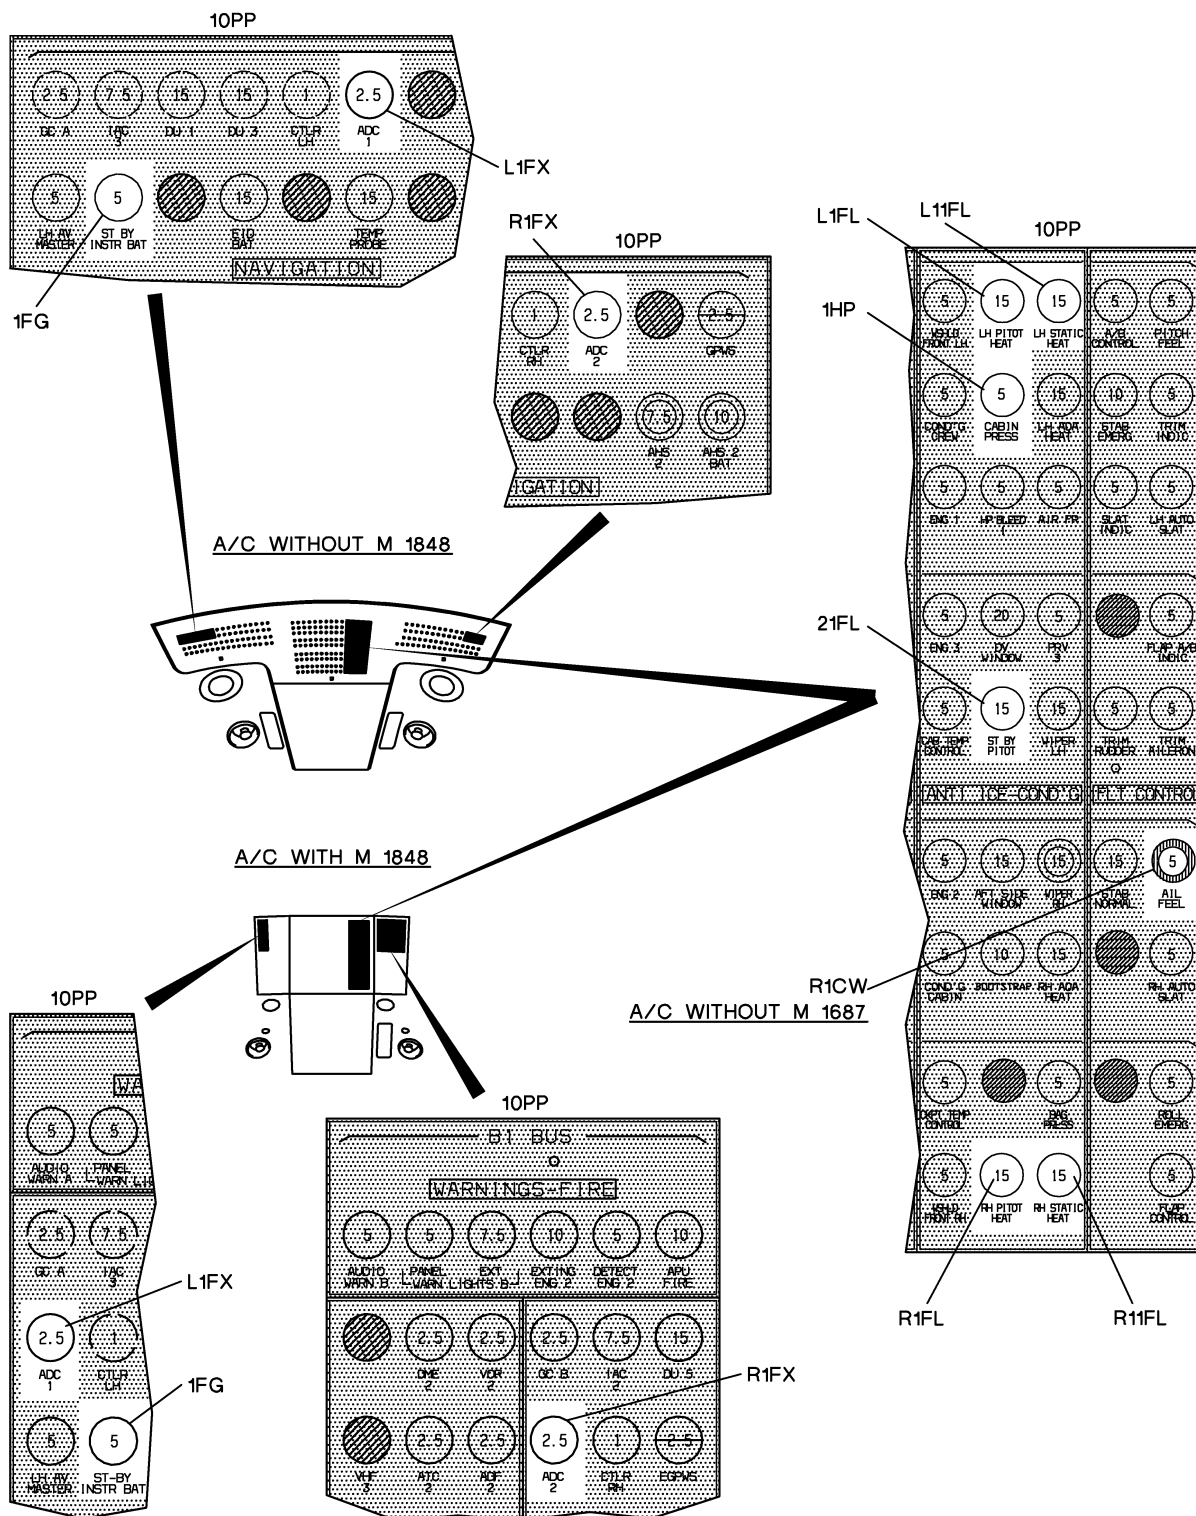

Figure 1: LOCATION OF CIRCUIT BREAKERS
- (4) Slowly return the digital air data bench to ambient atmospheric pressure.
- (5) On the circuit breaker panel (10PP), disengage the "ST-BY INSTR BAT" circuit breaker (1FG) to switch off the buzzer of the stand-by altimeter (see fig. 1).
- (7) Record the altitude values read on the stand-by altimeter with the buzzer off.
- (8) Calculate the difference between the values read on the stand-by altimeter with the buzzer on and the values read on the stand-by altimeter with the buzzer off.
- (9) Check that the calculated differences are within the indicated tolerances.
- (10) On the circuit breaker panel, engage the "ST-BY INSTR BAT" circuit breaker (see fig. 1).
Refer to **fig. 1**